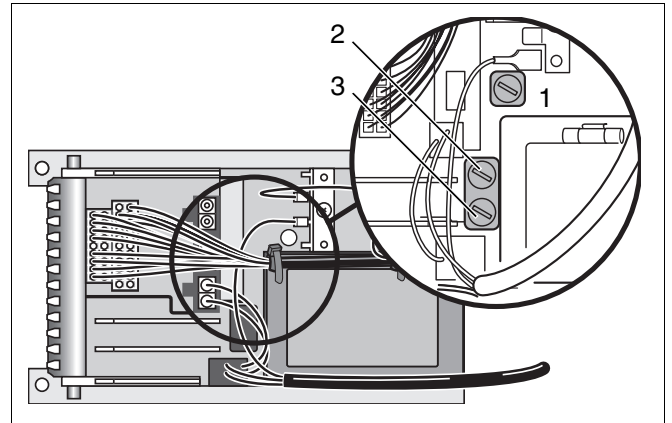

Fig. 47 Checking the miniature fuse
- Check miniature fuses (fig. 47) for correct functioning, or carry out visual inspection. If defective, fit new fuse (1.25 AT).